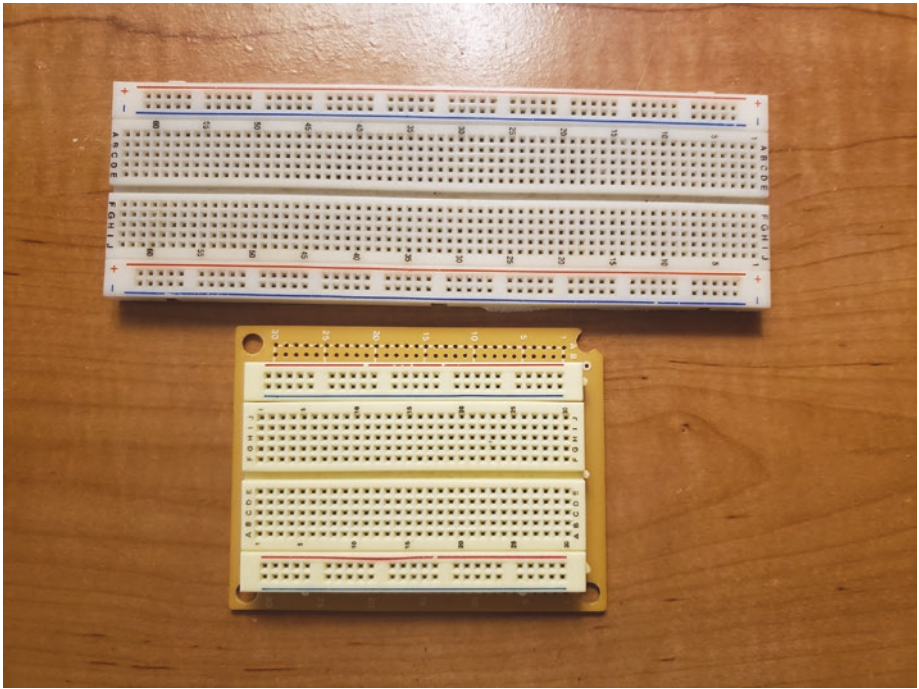

Figure 1-3. *An example of some solderless breadboards*
- Solderless breadboard: Another very important piece of hardware is the solderless breadboard (see Figure 1-3), which is used to implement your circuitry. For this book, you need to have a midsize solderless breadboard. It will be used in both the design and troubleshooting phases of the projects and will allow you to create a proof of concept for when we create the PCB in Eagle.